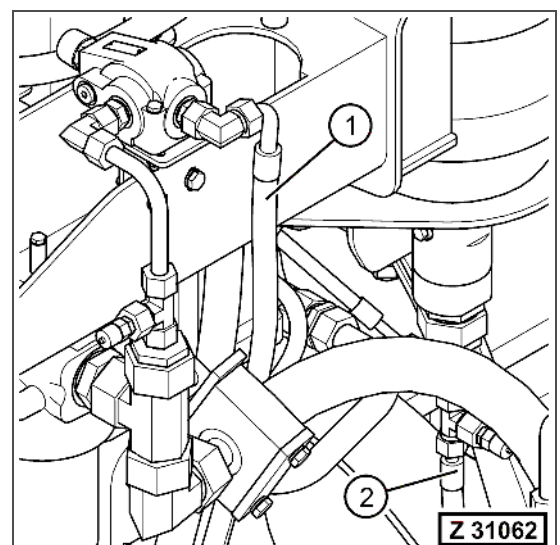

Fig. 3-163 View onto assembly's R.H. side
3. Disconnect the hydraulic hose (Fig. 3-163, Pos. 1) from the pressure relief valve and the pilot pressure hose (Fig. 3-163, Pos. 2) from the pressure test port at the bladder accumulator.